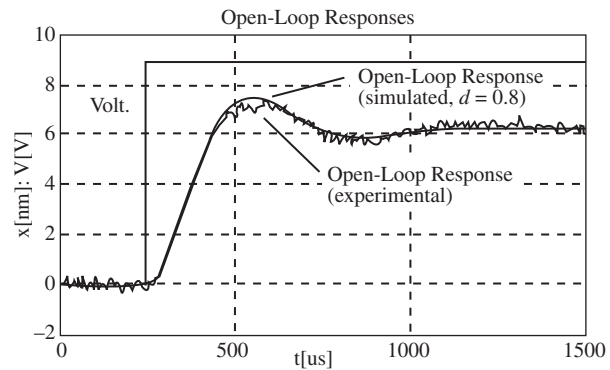

FIGURE I-4.41
16. A MOEMS (optical MEMS) is a MEMS (Micro Electromechanical Systems) with an optical fiber channel that takes light generated from a laser diode. It also has a photodetector that measures light intensity variations and outputs voltage variations proportional to small mechanical device deflections. Additionally, a voltage input is capable of deflecting the device. The apparatus can be used as an optical switch or as a variable optical attenuator, and it does not exceed 2000  $\mu\text{m}$  in any dimension. Figure I-4.4 shows input-output signal pairs used to identify the parameters of the system. Assume a second-order transfer function and find the system's transfer function (Borovic, 2005).